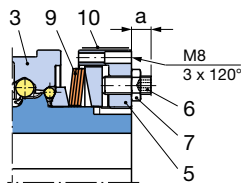

Fig. 10
- ☐ EAS®-Compact® overload clutch, Sizes 4..5: find dimension "a" in the Adjustment Table (10) glued to the adjusting nut (5) (Fig. 10).
- Counter the set screws (6) again using hexagon nuts (7).
- ☐ By evenly screwing 3 hexagon head screws M8 (provided by the customer) into the adjusting nut (5) (Fig. 10).